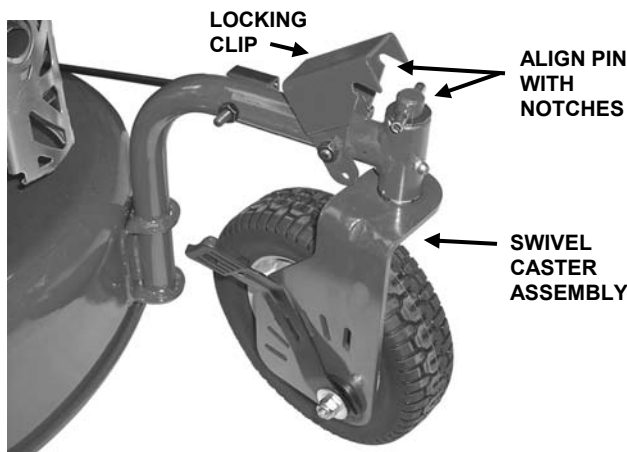

FIGURE 2.6
1. Move mower straight forward to align caster stud pin with notches in swivel locking clip, located above left caster stud. See Figure 2.6.